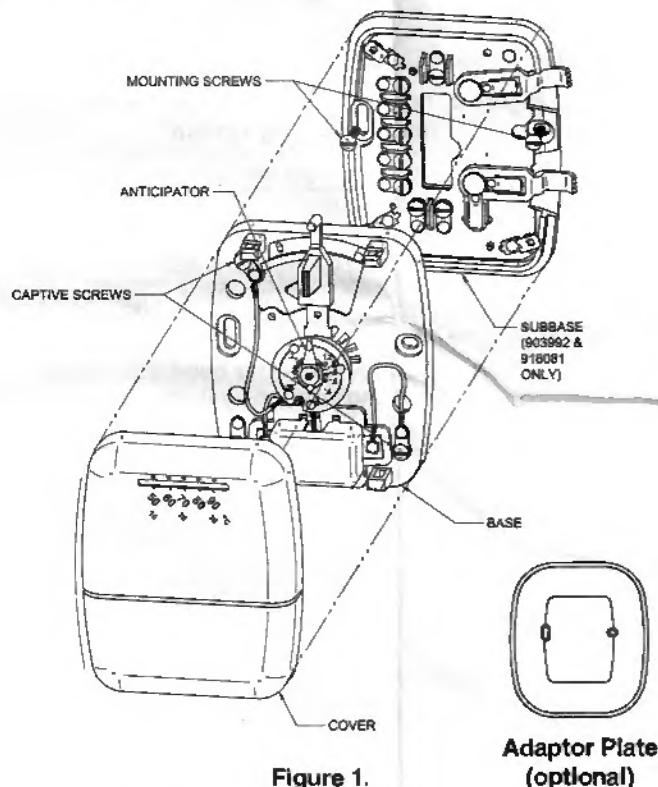

Figure 1.
- Mount base and adaptor plate:** Mount base and adaptor plate (optional) to wall using screws provided (see Fig. 1).
- Mount switching subbase/adaptor plate:** Use the screws provided to mount the subbase and adaptor plate (optional) to wall (see Fig. 1).
- Mount Thermostat Base:** Gently push excess wire back into the wall opening and plug hole with a fire-resistant material, such as fiberglass insulation to prevent drafts from affecting thermostat operation. Mount the thermostat base to the sub-base using the three captive screws on the thermostat base. (See Fig. 1) Tighten the screws securely. Remove paper tag from plastic contact cover. Proceed to Step #5.